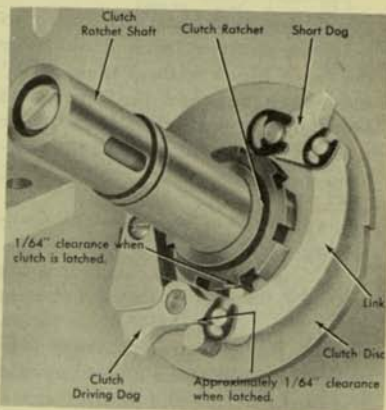

Figure 6
6. With the clutch latched and the detent seated, the driving dog should have $1/64''$ between it and the ratchet to prevent "dragging" of the dog (Figure 6). Check when latched on either dog. Lengthen or shorten the dog connecting link by peening to obtain the same on both.